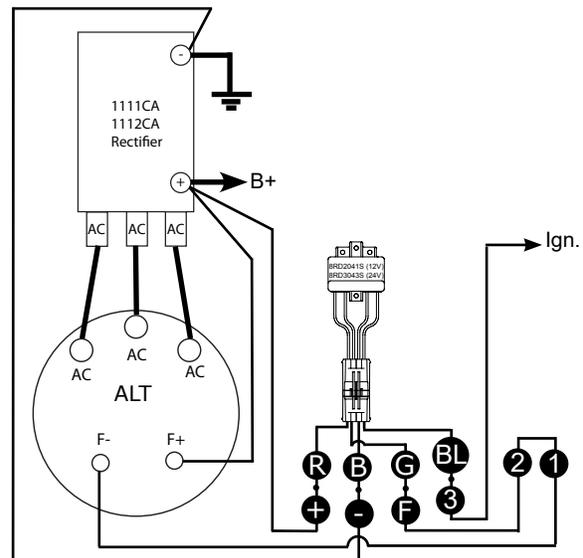

Fig 7
- 5) Wiring, please refer to steps below. Fig 7
- A) Splice wires ① and ② together and apply shrink tubing to prevent shorting.
- B) Connect wire ③ to (Blue **BL** / A Pin) on voltage regulator.